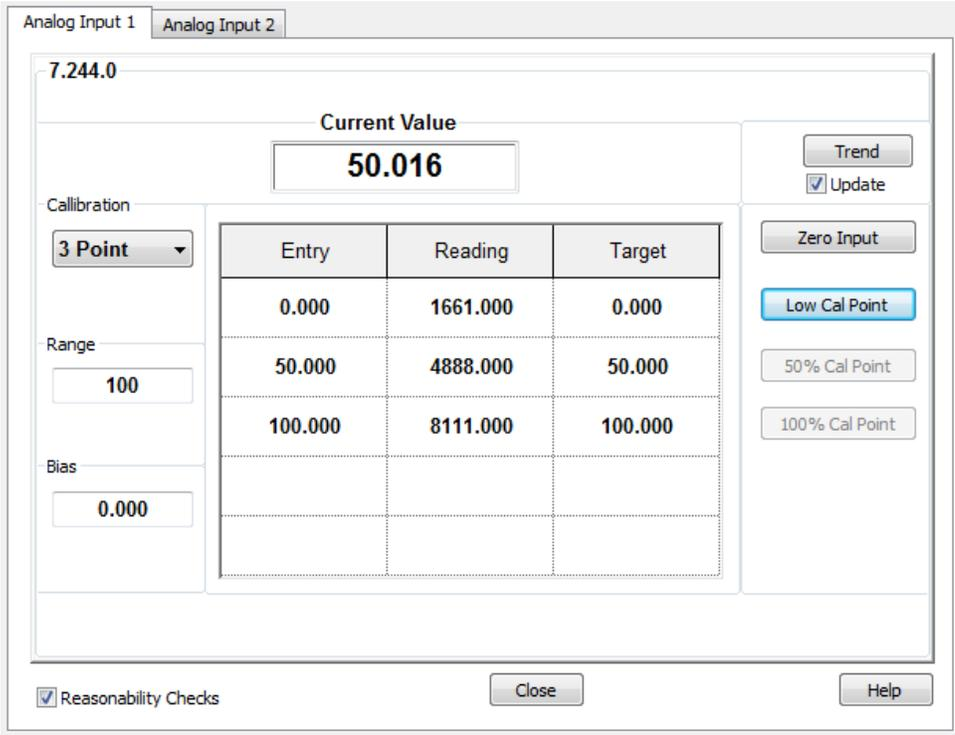

Figure 101: Calibrated AI example (voltage mode)
19. Verify the **Entry** values are updated and the Current Value field displays the calibrated value based on the range defined (Figure 101).